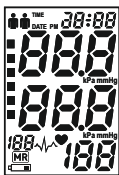

FIG.1
- Press the START/STOP button, all the elements will be displayed on the screen (FIG. 1), the cuff will start inflating. The increasing cuff pressure is displayed continuously. (FIG. 2)